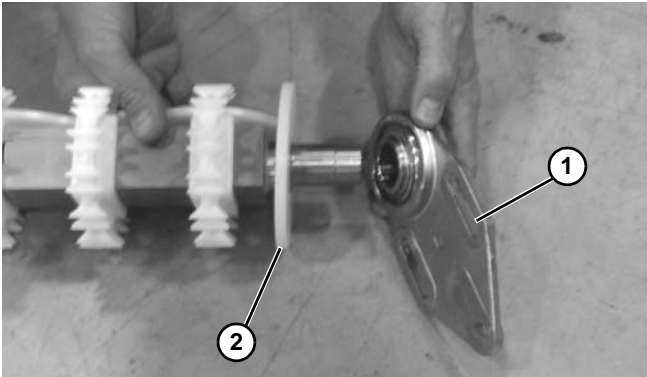

Figure 57
- Slide the headplate with bearing (**Figure 57, item 1**) off the shaft. Replace bearing if worn. Refer to “Bearing Replacement” on page 25.
- Remove guard puck (**Figure 57, item 2**) from end of drive spindle.